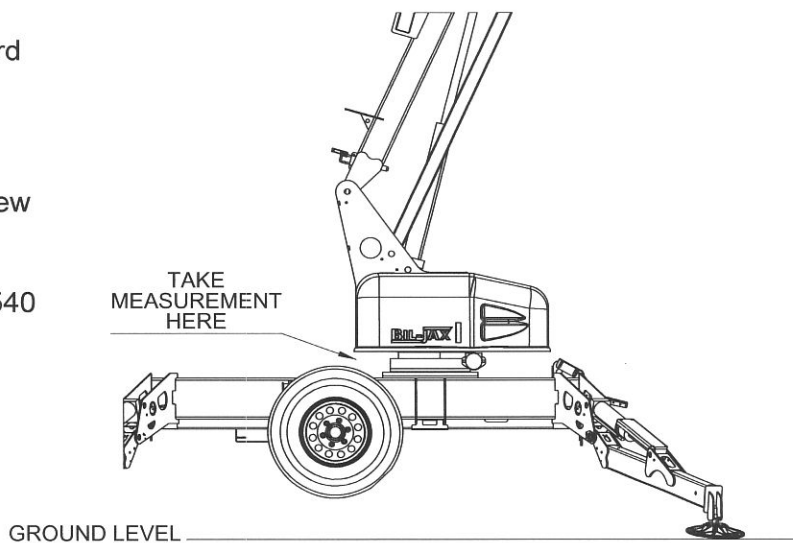

Figure 4-8. Platform Position After Rotation
- Rotate the platform 180° and re-record the measurement. Refer to Figure 4-8.